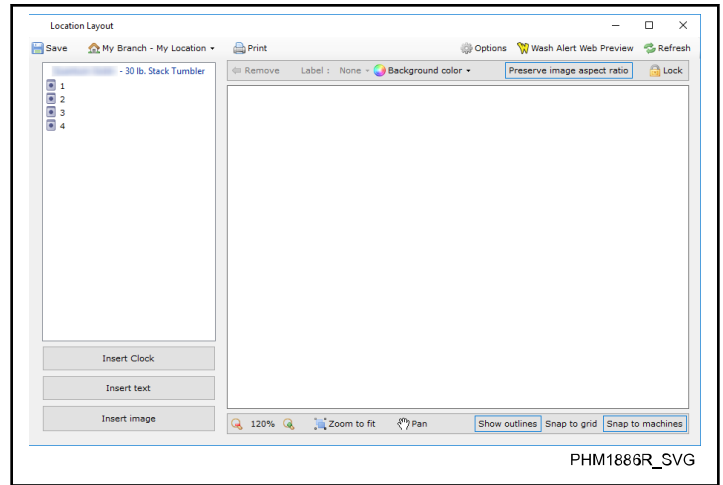

Figure 55
2. Select the appropriate location in the toolbar. In *Figure 55* "My Branch - My Location" is selected.